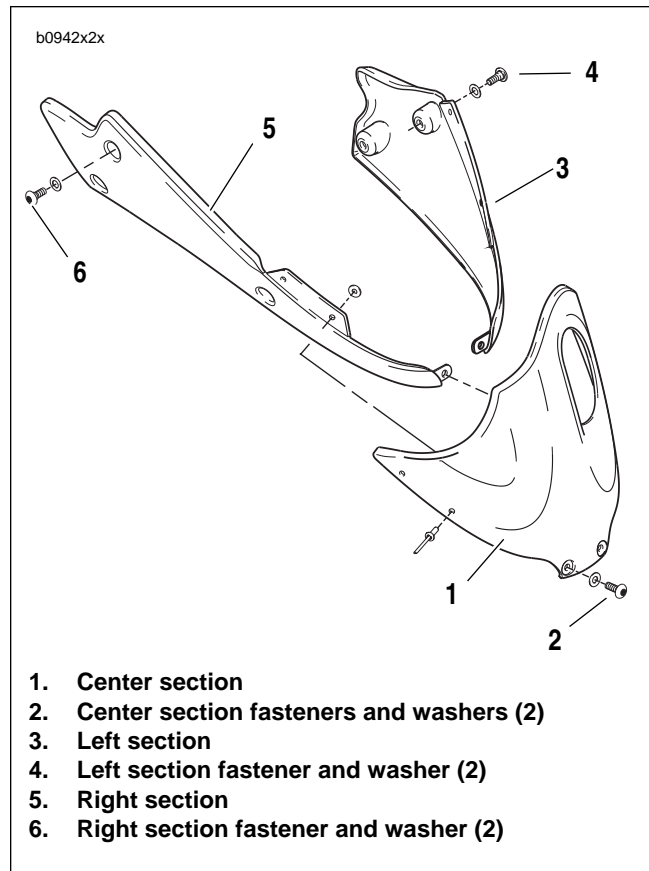

Figure 2-125. Chin Fairing
2. See Figure 2-125. Remove center section fasteners and washers (2).
3. Remove left section fasteners and washers (4).
4. Remove right section fasteners and washers (6).
2. See Figure 2-125. Position the assembled chin fairing (5) and loosely install right side fasteners and washers (6).
3. Align center section (1) and loosely install center section fasteners and washers (2).